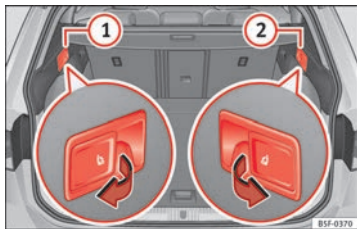

Fig. 94 In the luggage compartment: levers for remote release of the left part ① and right part ② of the rear seat backrest.
- Pull the remote release lever of the left part ⇒ Fig. 94 ① or right part ② of the backrest in the direction of the arrow. The released part of the rear seat backrest is folded automatically down and forwards.